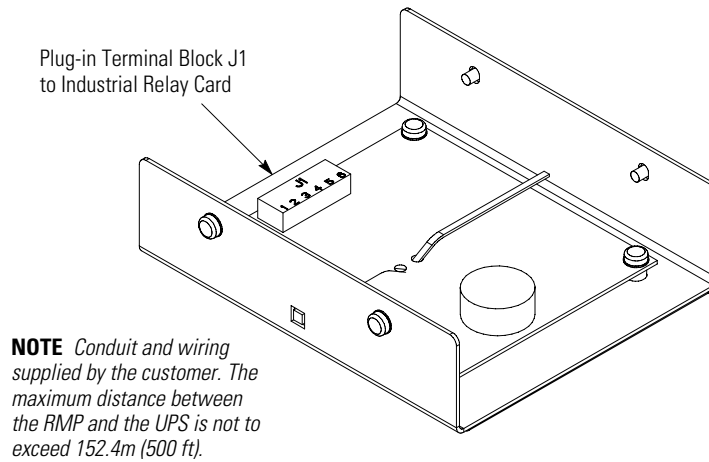
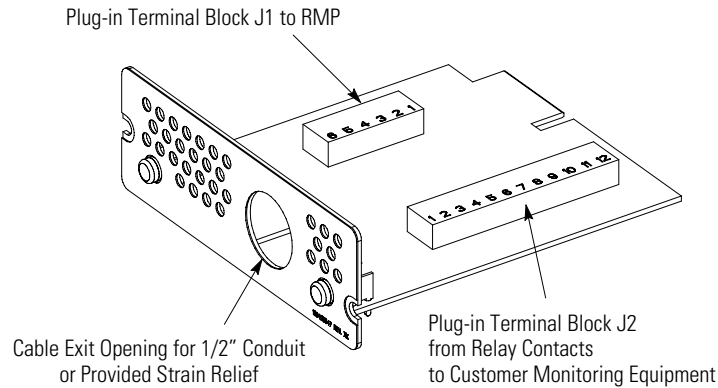

Figure 42. RMP Top Internal View
Figure 43. Industrial Relay Card
3. Install wiring from the RMP to the IRC using the cable listed in Table 4 and the provided strain relief bushings in the cable exit openings in the IRC (see Figure 43) and the RMP.
4. Connect the wiring between the RMP and the IRC plug-in terminal blocks using terminations shown in Table 4. See Figure 42 and Figure 43 for plug-in terminal block locations.
The IRC uses normally-open or normally-closed dry relay contacts to indicate the UPS status as listed in Table 5. Figure 43 shows an IRC.
2. Install wiring from the IRC to the monitoring equipment using 1/2" conduit through the cable exit opening in the IRC (see Figure 43).
3. Connect wiring between the IRC and the monitoring equipment using terminations shown in Table 5. See Figure 43 for plug-in terminal block locations.